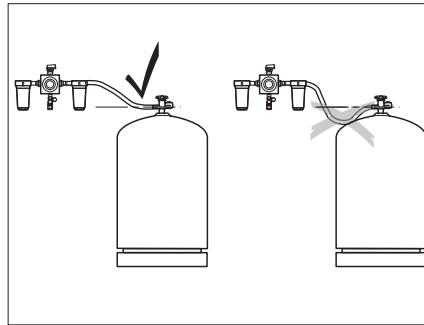

Fig. 72 Routing of the high-pressure hoses
- ▷ When routing the high-pressure hoses ensure that the hoses rise continuously (Fig. 72).